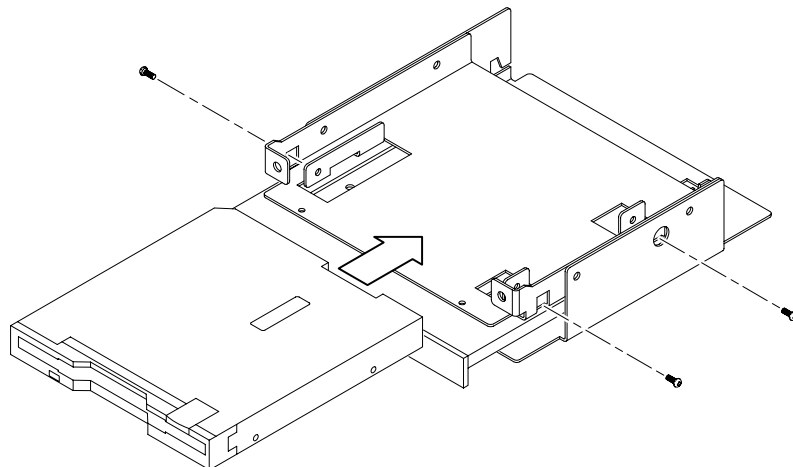

Figure 6-13: Chassis screw locations for the floppy disk drive
2. Lift the floppy disk drive up and off of the chassis as shown in Figure 6-13.